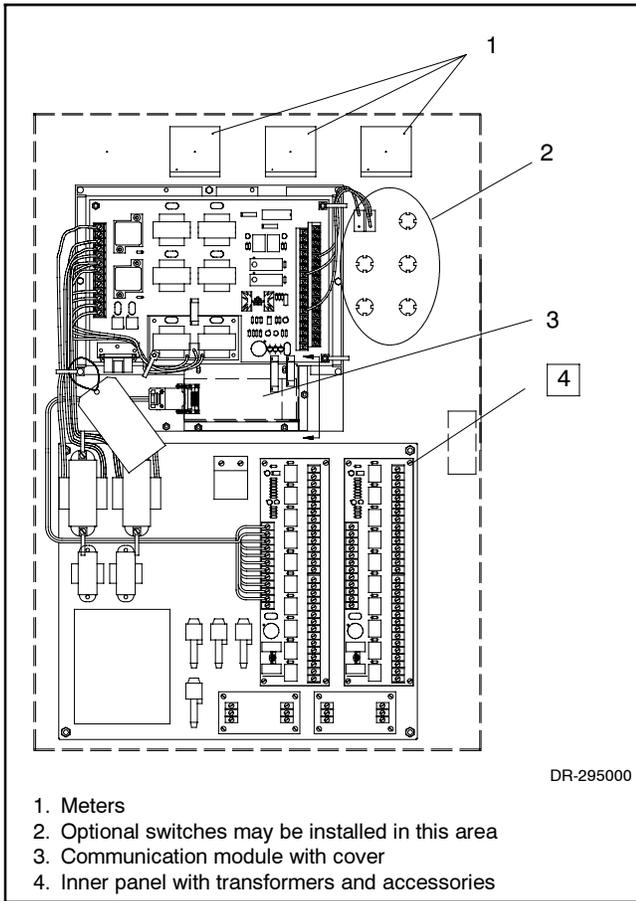

Figure 9 M340 Controller with Optional Accessories
7. Disconnect and remove any other optional switches. See Figure 9.
8. If the transfer switch is equipped with meters, disconnect and remove all meters and the selector switch. See Figure 9.